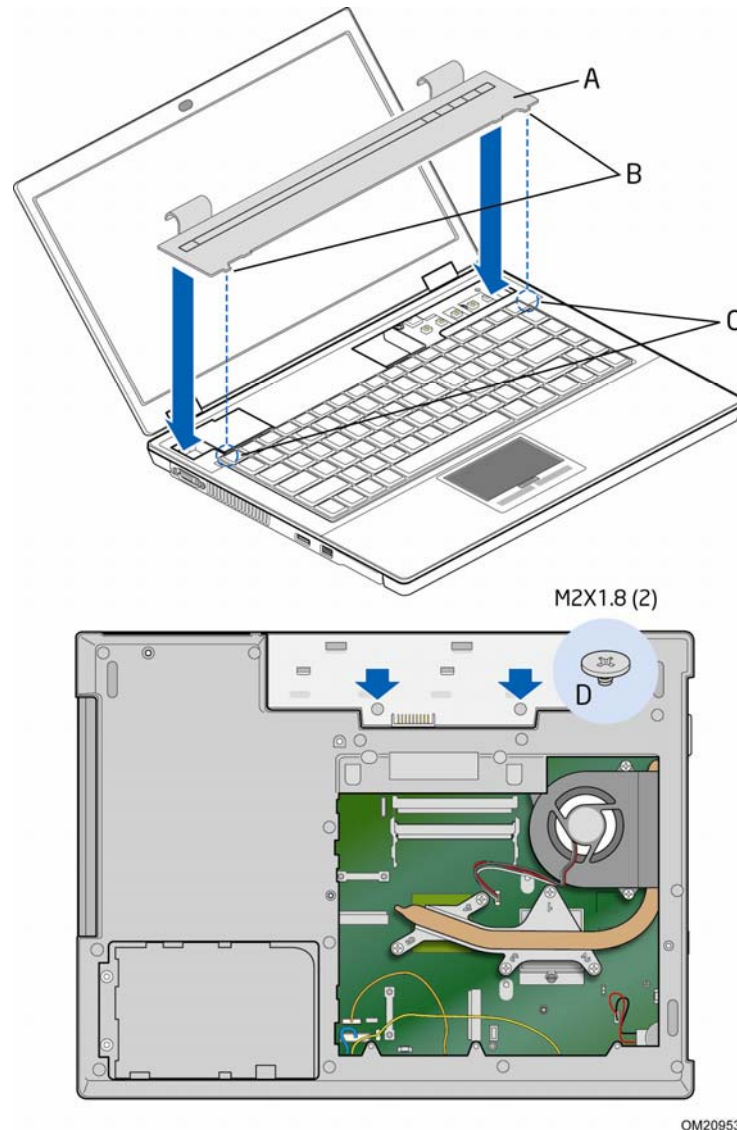

Figure 23. Installing a Keyboard Cover
To install the keyboard cover (Figure 23, A), see Figure 23 and follow these steps:
2. Insert the two tabs (Figure 23, B) on the front edge of the keyboard cover into the corresponding slots (Figure 23, C) in the C-tray (make sure that the keyboard is attached under the keyboard cover) and rotate the cover downward until it snaps into place.
3. Close the lid and turn the chassis over. Secure the keyboard cover with two screws (Figure 23, D) through the battery bracket as shown in the figure.